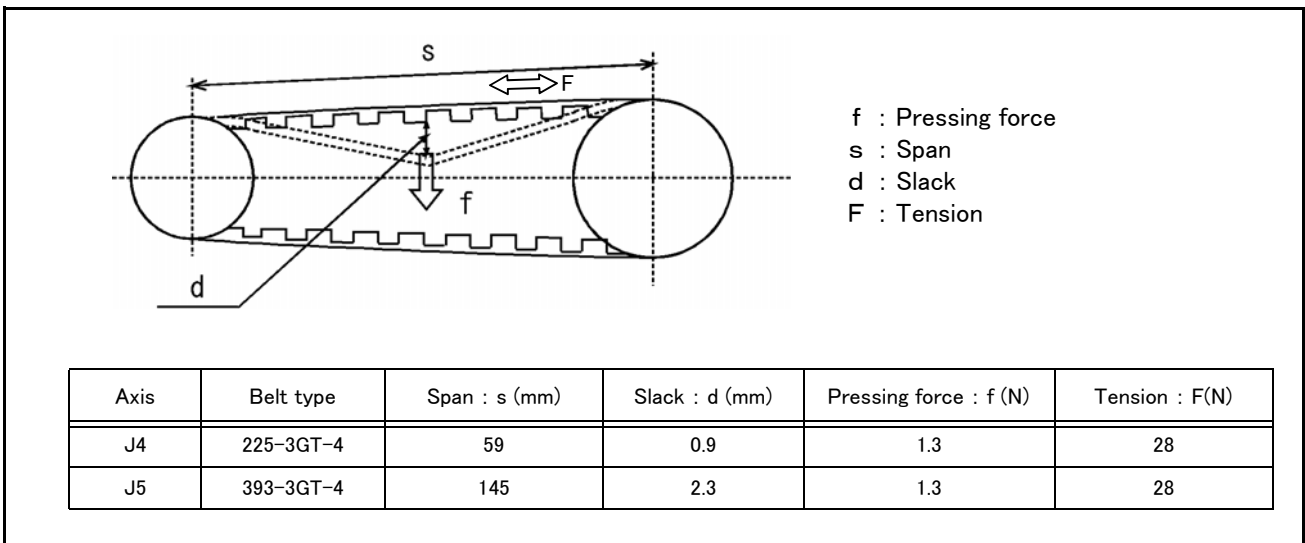

Fig.5-13 : Belt tension
- 4) Confirm that the belt tension is adjusted to slacken approx. 0.9mm when the center of the belt is lightly pressed with a finger (approx. 1.3N) as shown in "Fig.5-13 : Belt tension".
- 3) Visually confirm that the symptoms indicated in "(1) Timing belt replacement period" have not occurred with the timing belt.
- 4) Confirm that the belt tension is adjusted to slacken approx. 2.3mm when the center of the belt is lightly pressed with a finger (approx. 1.3N) as shown in "Fig.5-13 : Belt tension".
The detailed adjustment (tension) is shown in Fig. 5-13.